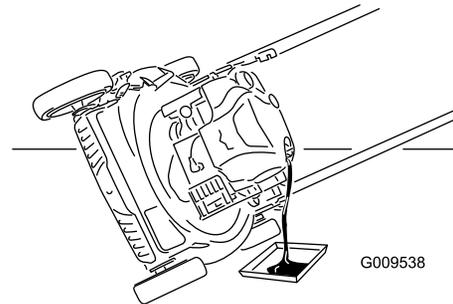

Figure 24
3. Tip the machine onto its side with the air filter up to drain the used oil out through the oil-fill tube (Figure 24).